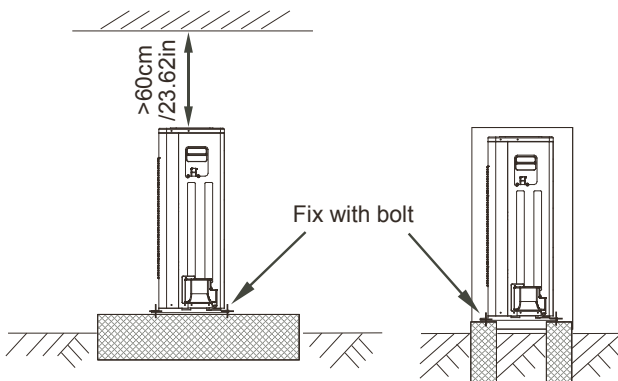

Fig 2.6
- Make concrete foundation according to the specifications of the outdoor units. (Refer to Fig.2-6)
- Fasten the feet of this unit with bolts firmly to prevent it from collapsing in case of earthquake or strong wind. (Refer to Fig.2-6)